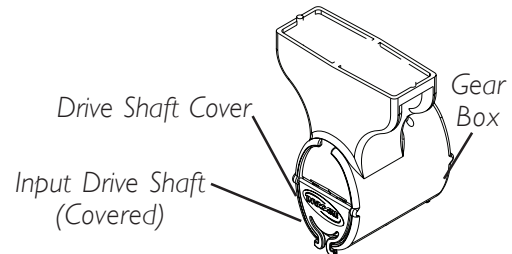

FIGURE 8 - DRIVE SHAFT ASSEMBLY AND INSTALLATION
- B. Ensure the Hi/Lo motor output shaft spring-loaded coupler is properly aligned with the foot end gear box as shown in DETAIL "A" of FIGURE 8.